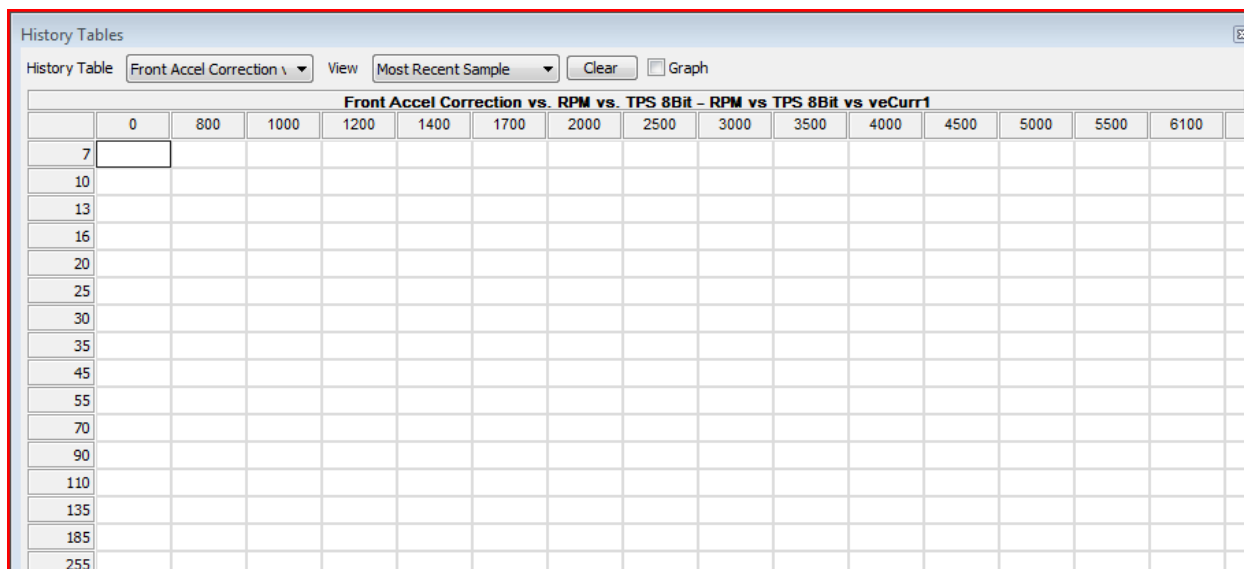

Figure 11: History Tables Window
4. Click on in the top-center of TunerPro RT the "Show Data History Tables" button. This function can also be accessed by clicking "Acquisition" from the drop-down menu, then selecting "Show History Tables" (second from bottom of list). A table will display in the main area of TunerPro RT, which will look somewhat like Figure 11 below:
11. The History Table can now be used to determine whether the ECM has been adding fuel (engine is running lean) or taking away fuel (engine is running rich). The option “History Average” from the View drop-down menu at the top of the History Tables window is the best option for relevant information (Reference Figure 11 if unsure about the drop-down menu location).